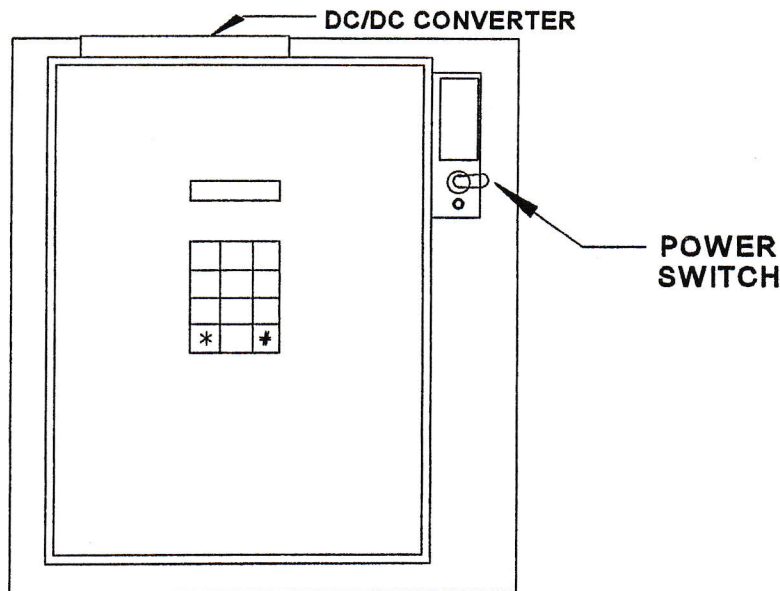

Figure 3 - Power Switch Location
2.7.4 Applying Power Turn power ON by placing the switch located on the upper right-hand corner of the unit in the ON position. **See Figure 3 - Power Switch Location.**